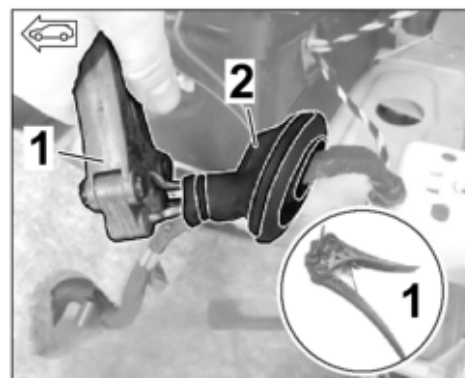

Figure 22
3.3.7 Guide the new branch for the exhaust flap (left/right) through the new grommet (left = Ø 66.5 mm/right = Ø 46 mm) using three mandrel pliers and an auxiliary line (Tekalan or Teflon tube). ⇒ Figure 22